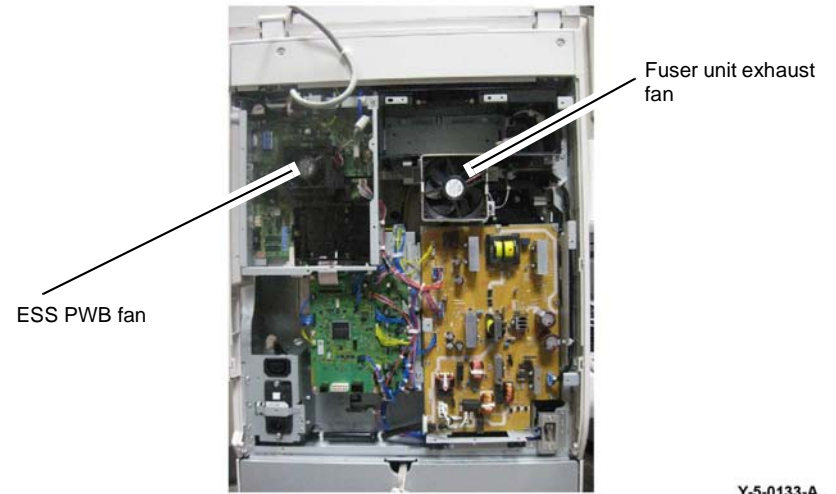

Figure 4 Fuser unit exhaust fan
- Fuser unit exhaust fan, PL 40.15 Item 4 inside the upper rear cover. Refer to Figure 4.